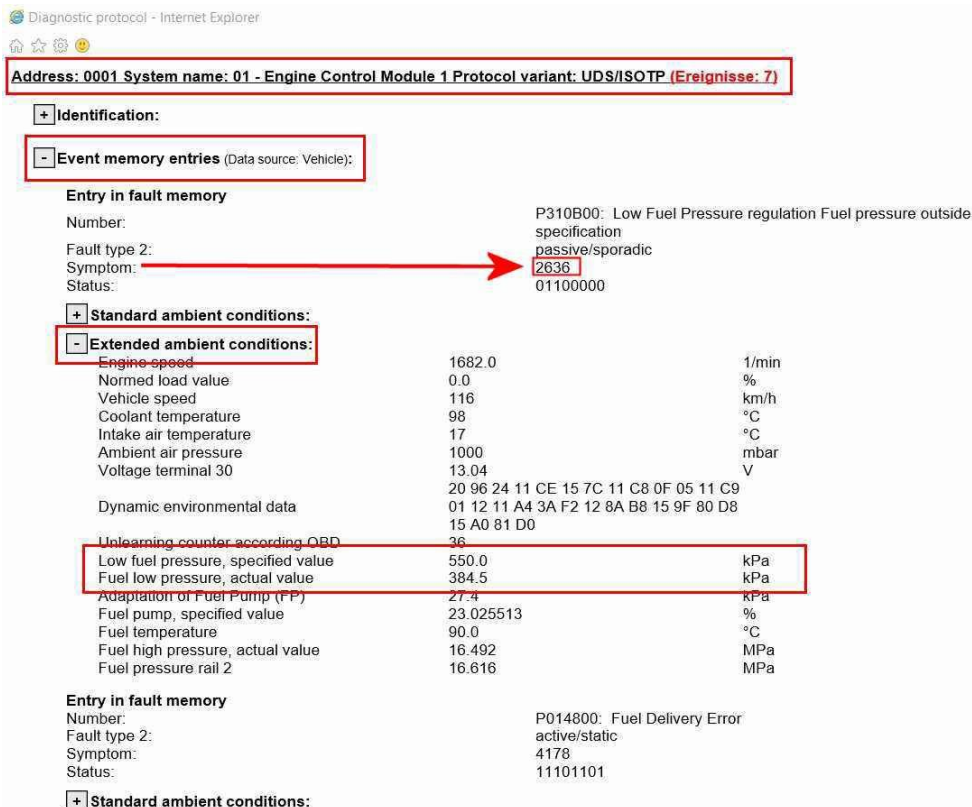

Figure 1
2) Check "Low fuel pressure, specified value" and "Fuel low pressure, actual value" within the fault memory, refer to ECU "01 – Engine Control Module 1" - From "Extended ambient conditions" note the values of the "Low fuel pressure, specified value" and "Fuel low pressure, actual value" as shown in Figure 1.